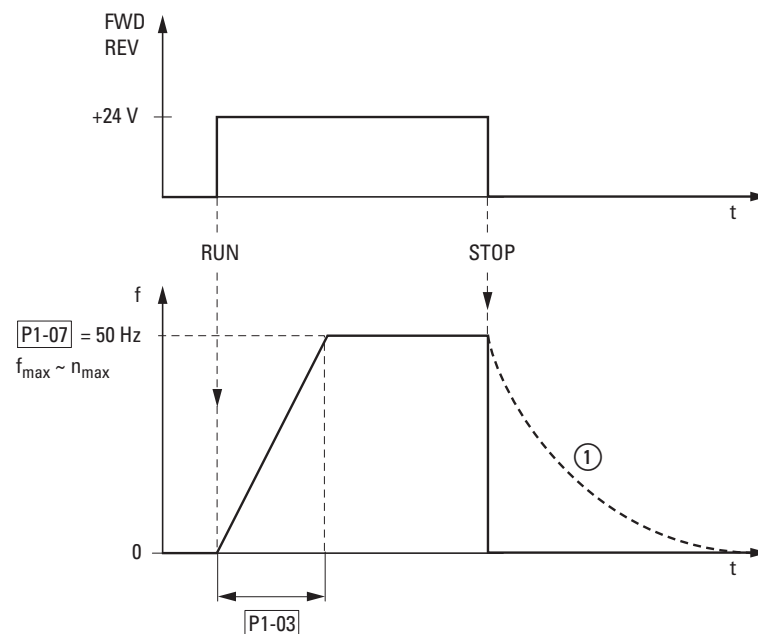

Figure 94: Start-Stop command with maximum reference voltage
The motor runs down unguided (see ① in figure 94).